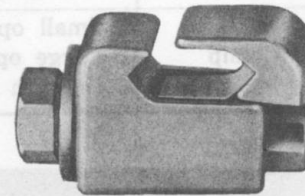

Fig. 46—AT-7796X Connector
13.03 Bond the aluminum shield or armored wire of buried service wire to the ground terminal of the protector by means of the F-Connector. The aluminum shield or armor wire is bonded to the terminal housing by means of an AT-7796X connector (Fig. 46).